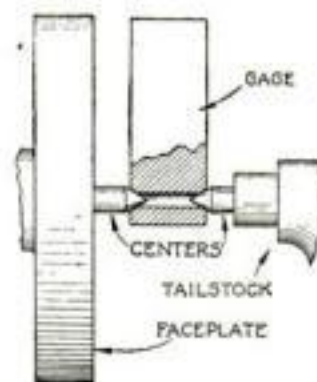

Fig. 4. A simple alignment gage for centers.
**A** SIMPLE gage for testing the alignment of centers on a lathe can be made from a 3/4 by 1 by 12 in. piece of scrap steel. Grind the stock square on all four faces and then drill, ream, and countersink each end of the hole as shown in Fig. 4.